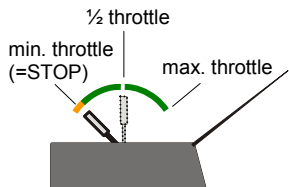

Fig. 1
- a) Aircraft one way** (fig. 1): Standard aircraft driving. "STOP" throttle position is identical with "brake" position. Transmitter without lock of STOP position.
- d) Boat one way** (fig. 1): Backward run is blocked by SW as well as by throttle position. Transmitter without lock of STOP position.
Throttle stick moving to forward motor start run. When moved to STOP position, motor stops and brake with set intensity („P23 – Brake intensity in Neutral \(in STOP position\)“) or only stops, without brake, when parameter set to “0” – fig. 1 on the page 8.